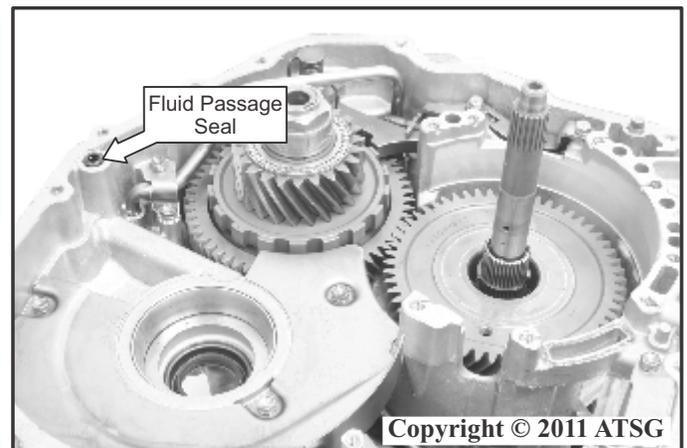

Figure 239
70. Install a new fluid passage seal into the case as shown in Figure 239.